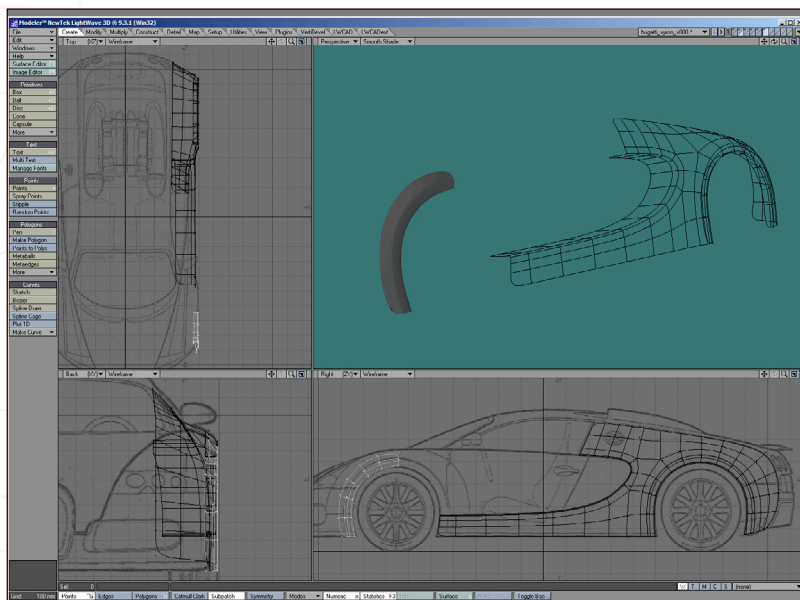

Fig 29
29. Move the geometry forward so it overlays the wheel arch in your blueprint. This gives us half the arch and, save for a little adjustment, is pretty much perfect. Use the mirror tool and mirror the front half of the arch in the Z axis, then adjust the mirror position until the duplicate half lines up correctly with the rear half of the arch (Fig29).